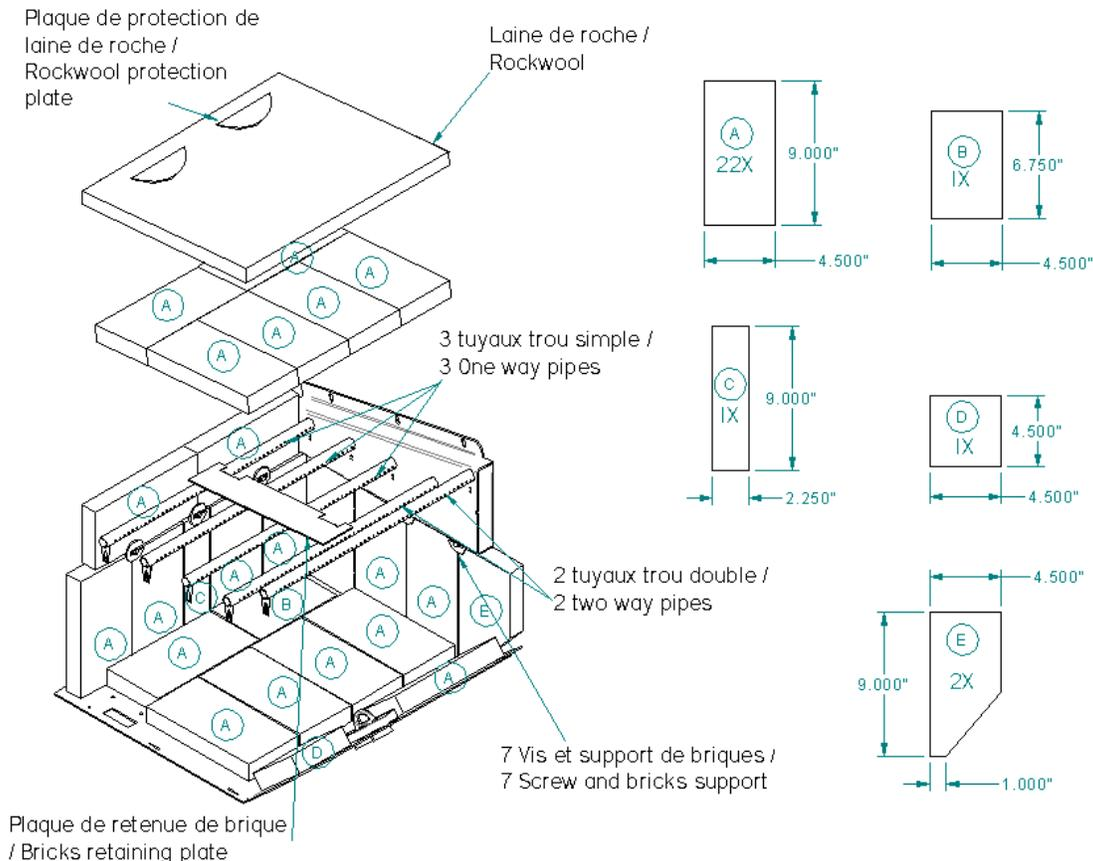

Fig. 1
1. Fix the 7 screws with there bricks support to there designated space but do not tightened tem completely. There should be 3 screw on the back and 2 on each side of the stove. (See Fig. 1). If it's not already done.
2. Install the bricks on the back and on the sides of the stove; A(10), C(1), E(2) then completely tighten the bricks support screw so that the bricks be maintained at there place (See Fig.1) If it's not already done.
3. Install these bricks in the bottom of the stoves: A(6), B(1), D(1) (See Fig. 1) If it's not already done.
4. Install the 4 stainless steel pipes beginning from the rear of the stove. Put the bricks retaining plate on the pipes. Install the 2 rear bricks on the top of the pipes A(2) (See Fig. 1) If it's not already done.